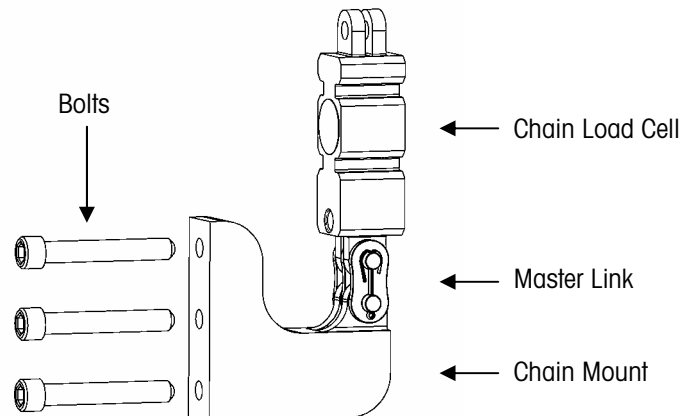

Figure 6-5: Chain Mount Assembly
13. Remove the three bolts that secure the chain mount to the carriage. Then remove the entire assembly (chain mount, load cell, and chain) from the carriage (see Figure 6-5).
3. Bolt the chain mount to the carriage, using the three bolts that were removed earlier (see Figure 6-5). Torque all three bolts to 60 ft-lb (or 120% of the prescribed torque value). Loosen all three bolts so that all torque is relieved. Retighten all bolts to the prescribed torque of 50 ft-lb. The application of a medium-grade thread locker is acceptable.